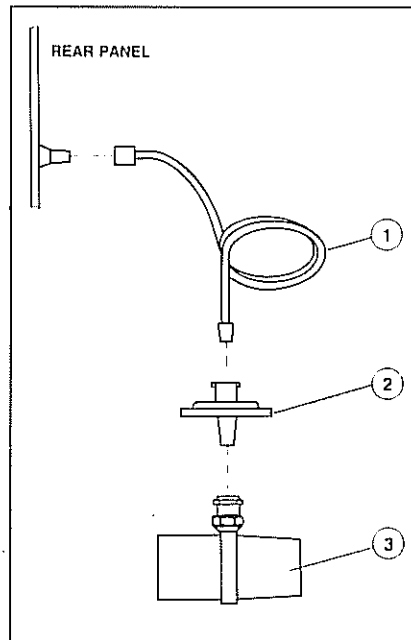

Figure 12 Gas Return Circuit
The gas flow can be returned to the respiratory circuit through a special Datex Return Gas Start-Up Kit, which consists of a sterilized return tube (1), bacteria filter (hydrophobic) (2), and return adapter (3). See Figure 12.